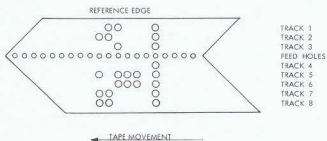

Figure 4.1. 8 track tape
2. Insert the tape into the tape guide with the reference edge (see figure 4.1.) nearest the panel.